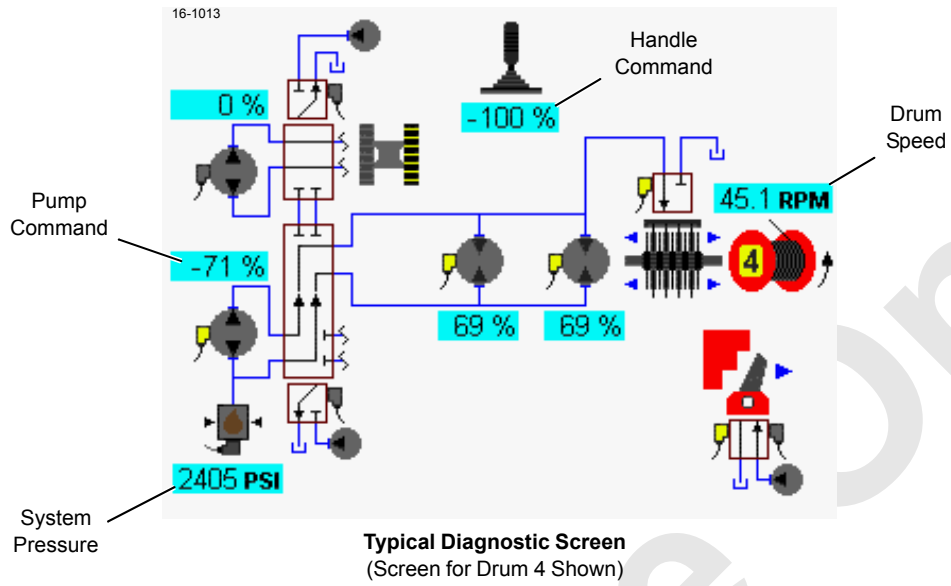

FIGURE 2-18
7. On diagnostic screens (Figure 2-18), check pump pressures for load drums, boom hoist, swing, and travel pumps: